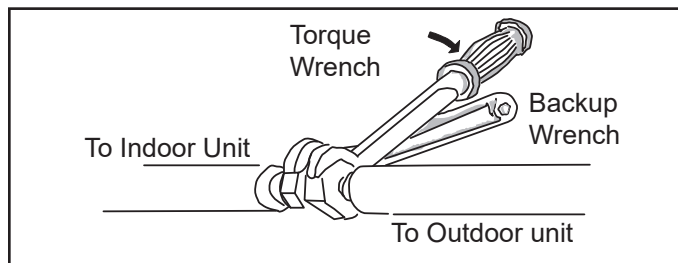

Figure 20. Tighten Flare Nut
6. Once snug, continue another half-turn on each nut which should create a leak-free joint. A torque wrench may be used to tighten flare nuts using Table 3 recommendations. See Figure 20. **Do not over-tighten a flared joint. Flared connections should always be accessible and must be insulated to prevent condensation.**